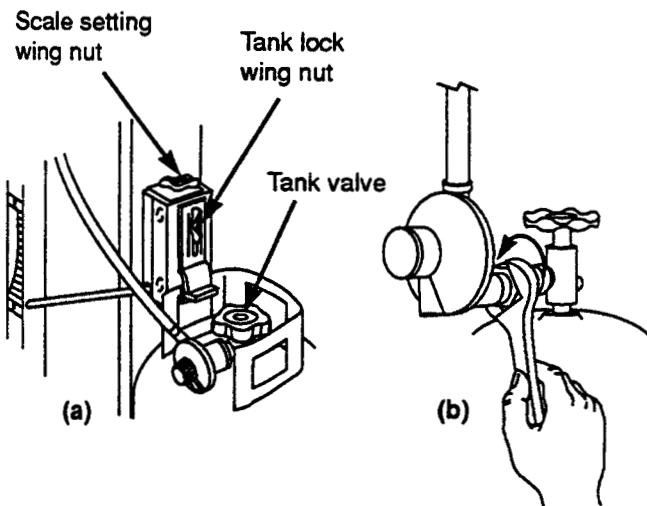

Figure 3
- 1) Close tank valve (turn clockwise). Figure 3 (a).
- 2) Use a 7/8 inch open-end or adjustable wrench to loosen the POL nut. Unscrew by hand. Figure 3 (b).
- 3) Loosen tank lock wing nut and turn tank lock up out of the way. Figure 3 (a).
- b) Loosen the tank lock wing nut. Swing the tank lock down. Tighten the wing nut. Figure 3 (a).